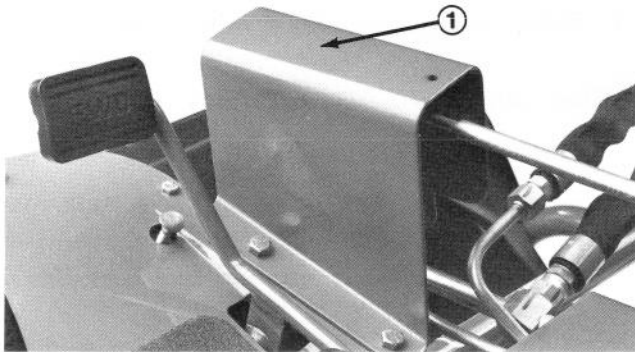

Figure 48
1. Place 1, 2 and 3 spools in neutral (center of travel) and remove transfer rod guard from foot panel (Fig. 48).
4. Install the clevis pin and cotter pin. Tighten the jam nut and install the transfer rod guard (Fig. 48).